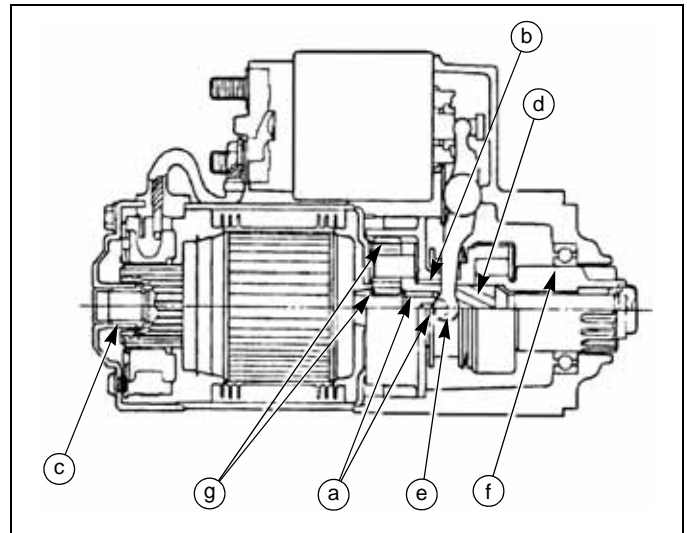

Fig. 5-33
1. Apply grease to the following parts during assembly: (see page 5-16, Fig. 5-33)